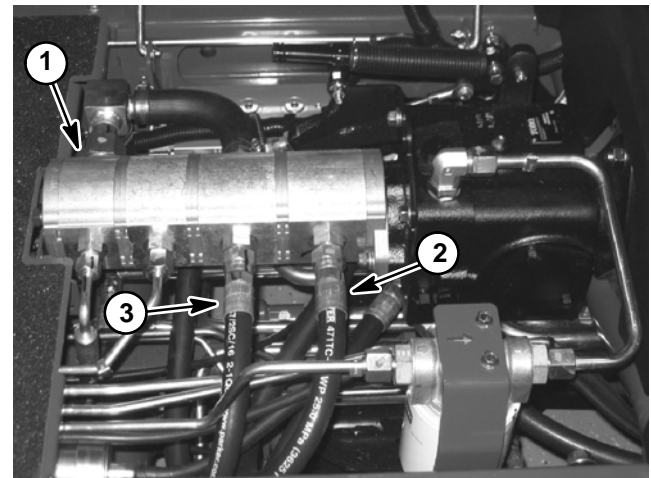

Figure 48
5. Identify suspected faulty pump section to be tested (Fig. 48). Thoroughly clean junction of gear pump fitting and hydraulic outlet hose. Disconnect hose from pump fitting: